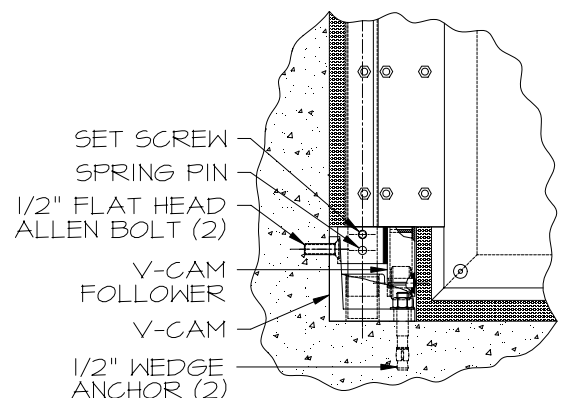

FIG. 9
- a. Place v-cam follower on bottom shaft (Figure 9).
- d. Drill through bottom v-cam to floor for 5/8" wedge anchor bolts (Figure 9).